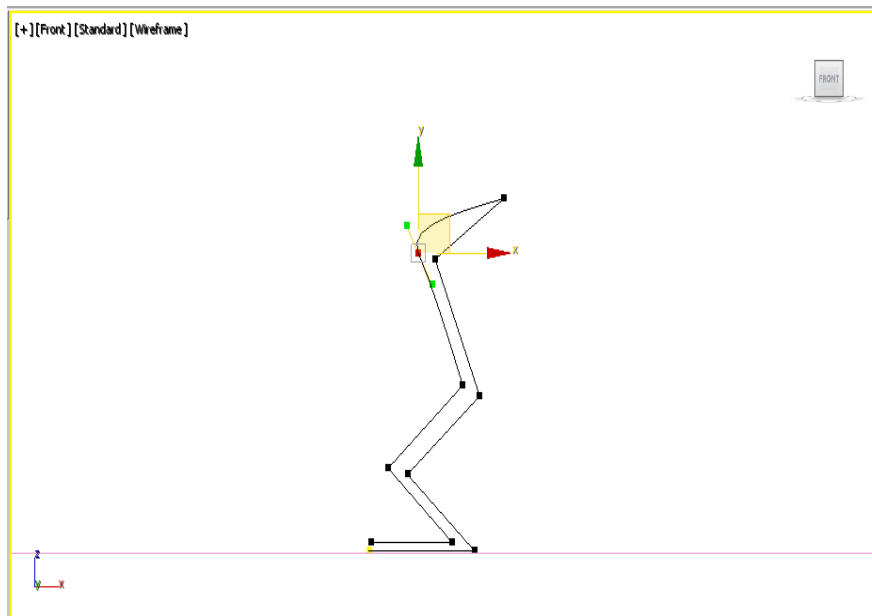

Figure 5-13 The curve reshaped by dragging the bezier handle
12. Next, hold the upper green handle and drag it to left so that the curve looks similar to the one shown in Figure 5-13. If you make a change by mistake, choose the **Undo**  **Scene Operation** button to undo the previous change.